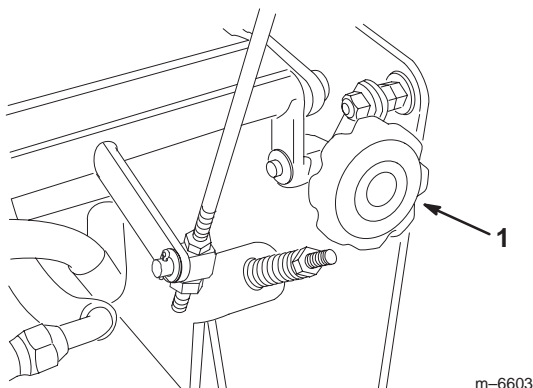

Figure 58
4. If the unit tracks to one side or the other, turn the quick track knob. Turn the knob right to steer right and turn the knob left to steer left (Fig. 58).